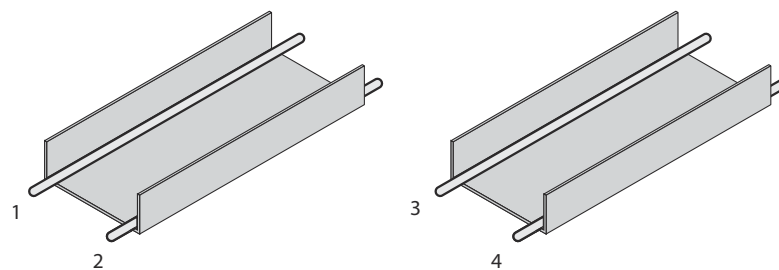
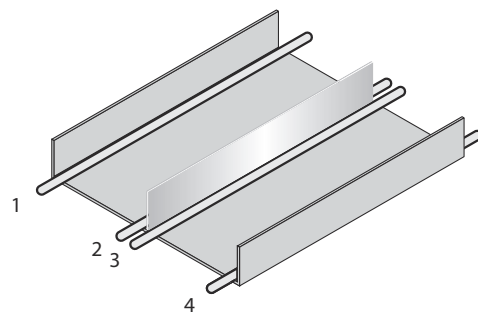

Figure 6: Ideal laying – Place cables in different cable ducts
Figure 7: Alternative laying – Separate cables with metallic separators
- ▶ Route the cables in groups 1, 2 and 3, 4 in different cable ducts or use metallic separators (see figure 6 and see figure 7). This applies particularly if cables of devices with a high level of radiated emission, such as frequency converters, are laid parallel to device cables.